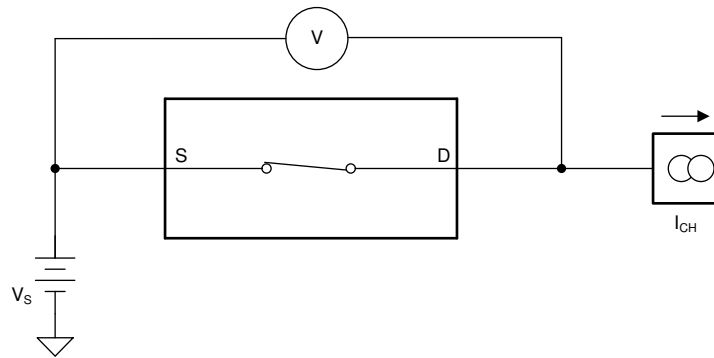

图 8-1. On-Resistance Measurement Setup
The on-resistance of the TMUX6121, TMUX6122, and TMUX6123 is the ohmic resistance across the source (Sx) and drain (D) pins of the device. The on-resistance varies with input voltage and supply voltage. The symbol  $R_{ON}$  is used to denote on-resistance. The measurement setup used to measure  $R_{ON}$  is shown in 图 8-1. Voltage (V) and current ( $I_{CH}$ ) are measured using this setup, and  $R_{ON}$  is computed as shown in 方程式 1: